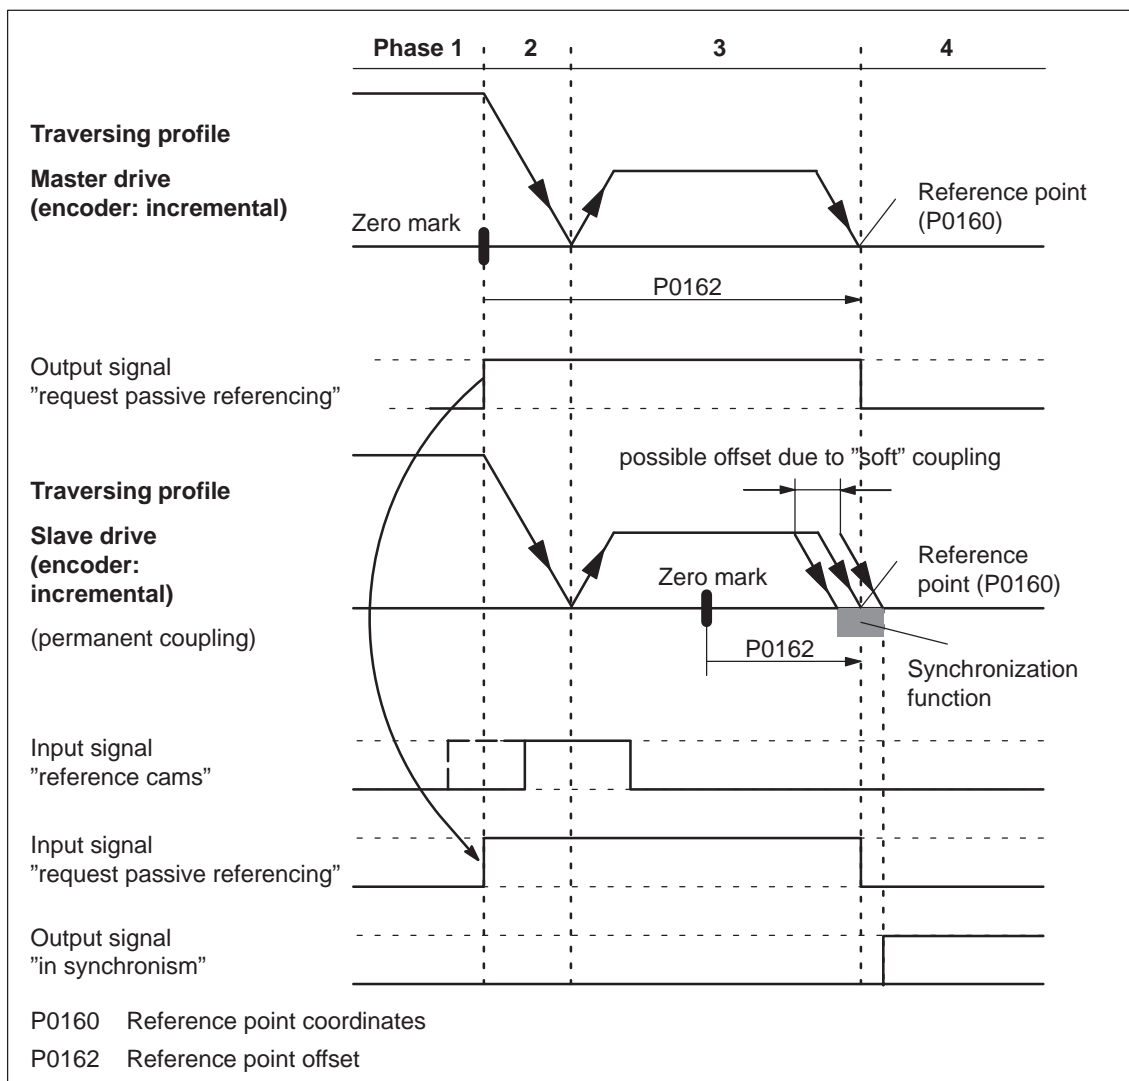

Fig. 6-34 Sequence when passively referencing (master and slave drive with incremental encoder)
1. Carry-out passive referencing as usual (Fig.6-34).